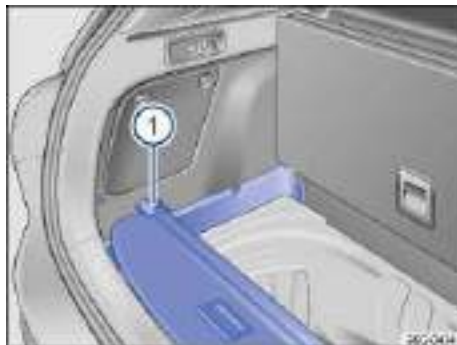

Fig. 93 Under the variable luggage compartment floor: Stowing the luggage compartment cover.
- Stow the removed luggage compartment cover ⇒ fig. 93 \(1\), as shown, on the rear recesses of the side racks.